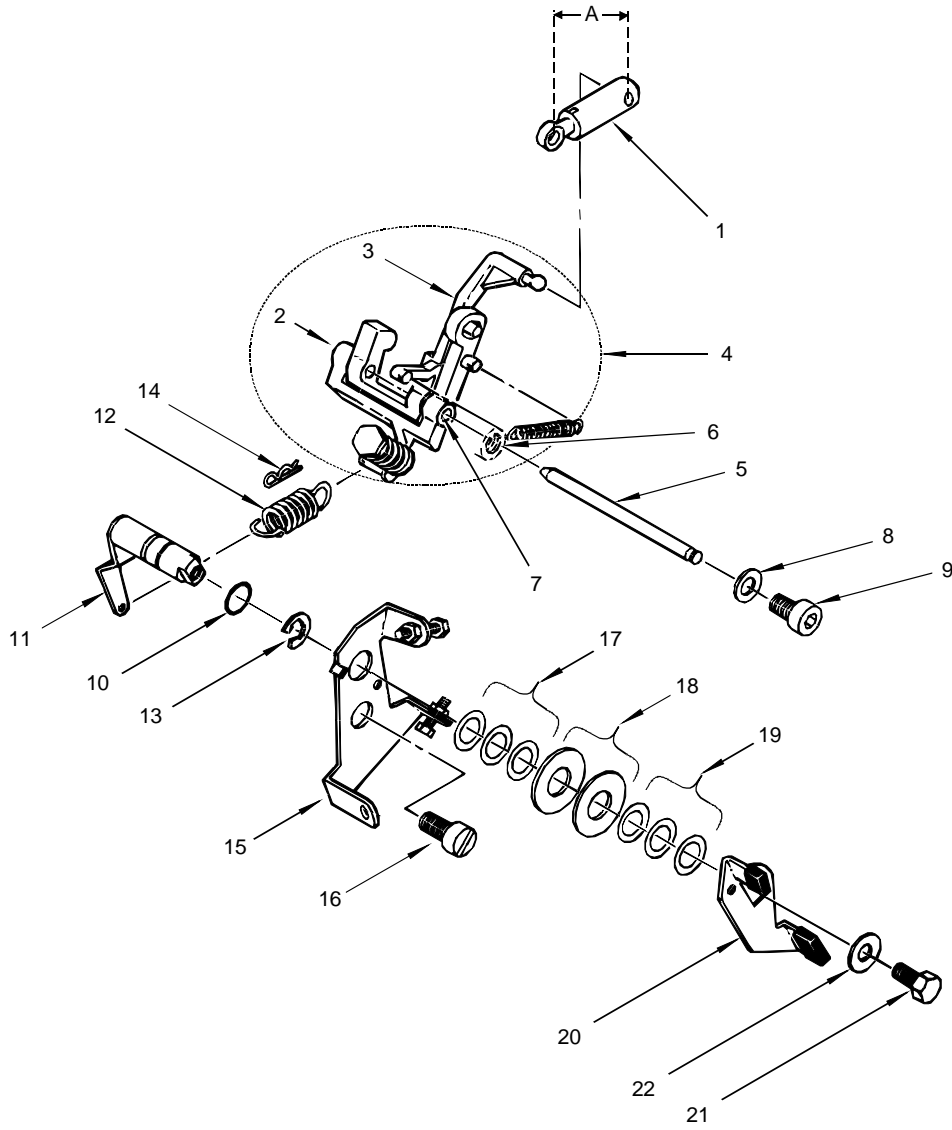

Figure 10. Governor and Speed Control Installation
**INSTALL GOVERNOR ASSEMBLY AND SPEED CONTROL** (Refer to Figures 10 and 11)**INITIAL SET-UP:****Tools:**
Refer to Figure 10.